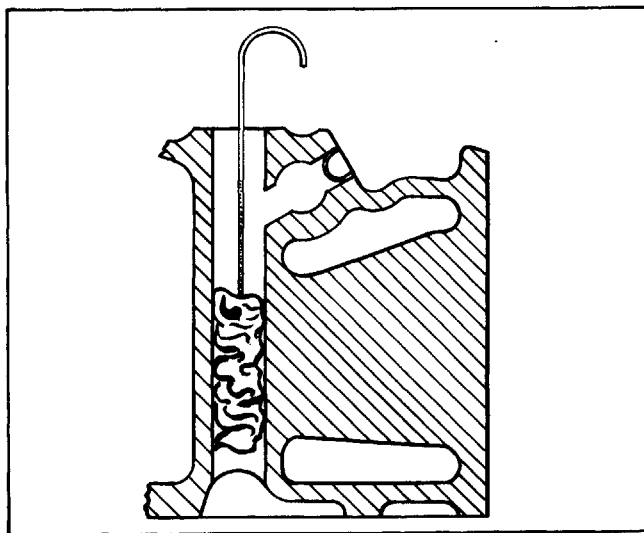

Fig. 6-25 Removing Oil Passage Plug
2. Attach wire to piece of rag (for removal) and push rag down into bolt hole past oil passage in which plug is located (Fig. 6-25).